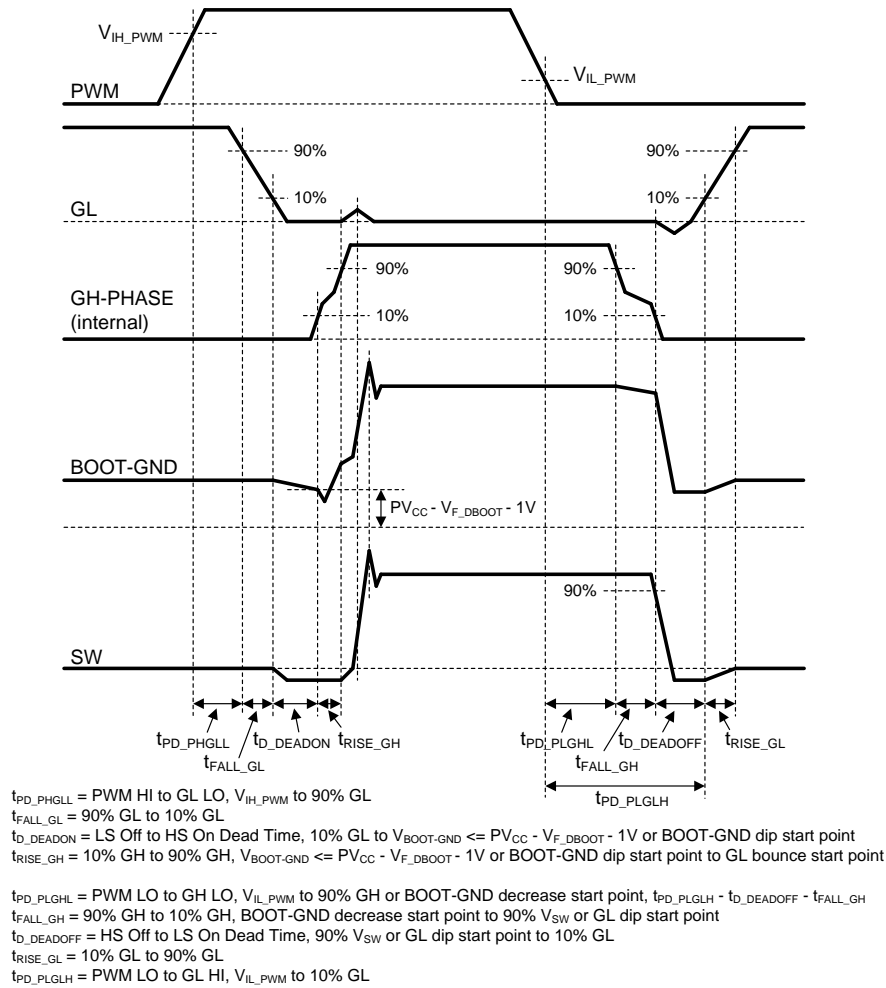

Figure 24. PWM Timing Diagram
- The timing diagram in Figure 24 assumes very slow ramp on PWM.